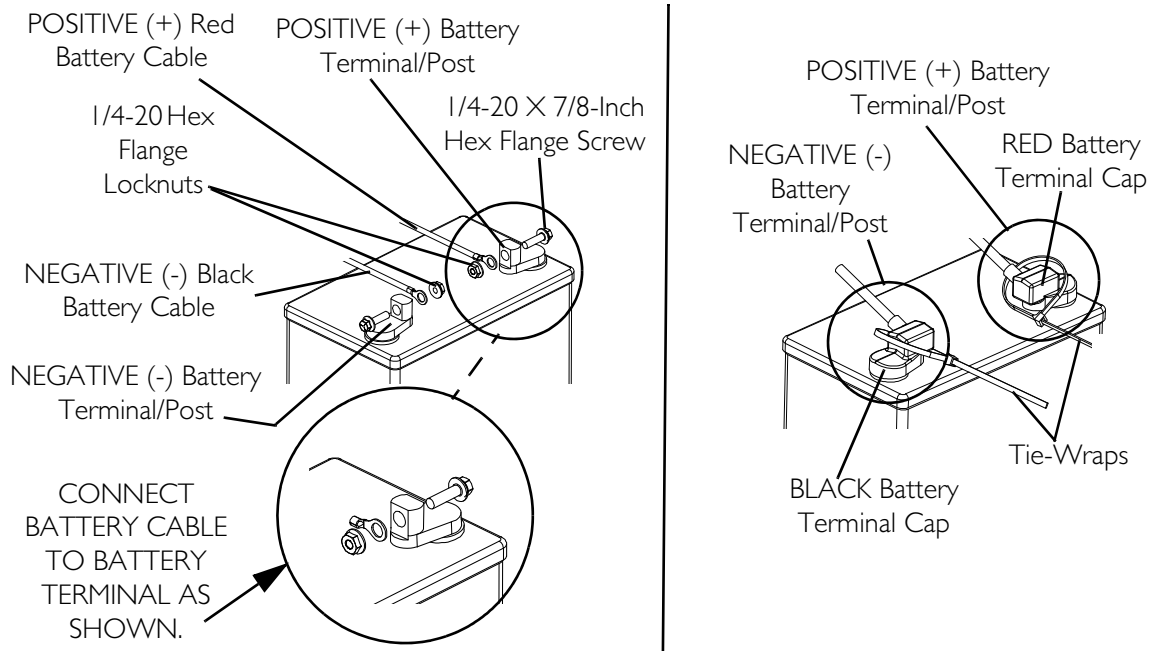

FIGURE 12.6 Connecting Battery Cables - Direct Mount Method
- Dual U1 Batteries - Use direct mount method. Refer to FIGURE 12.5 and FIGURE 12.6.
- Dual Group 22NF Batteries with Mounting Holes in the Terminal(s)/Post(s) - Use direct mount method. Refer to FIGURE 12.5 and FIGURE 12.6.
NOTE: For this procedure, refer to FIGURE 12.5 and FIGURE 12.6 on page 59.
When connecting the battery cables to the battery(ies), the battery cable(s) MUST be connected to the battery terminal(s)/post(s) as shown in Detail “A” or Detail “B” of FIGURE 12.6 (depending on battery type), otherwise damage to the battery cable may result when installing battery terminal caps.
2. Connect battery cable(s) to battery(ies) terminal(s)/post(s) as shown in Detail “A” or Detail “B” of FIGURE 12.6, depending on battery type:
3. Secure the battery cable(s)/ring terminal(s) to the battery terminal(s)/post(s), BLACK to NEGATIVE (-) and RED to POSITIVE (+), with the provided 1/4-20 x 7/8-inch hex flange screw and hex flange locknut as shown in Detail “A” or Detail “B” of FIGURE 12.6, depending on battery type. Securely tighten.
5. Slide terminal cap(s) down battery cable(s) and onto battery clamps (FIGURE 12.6).
6. Using the 11½-inch long tie-wrap, secure each terminal cap in place (Detail “C” of FIGURE 12.6).